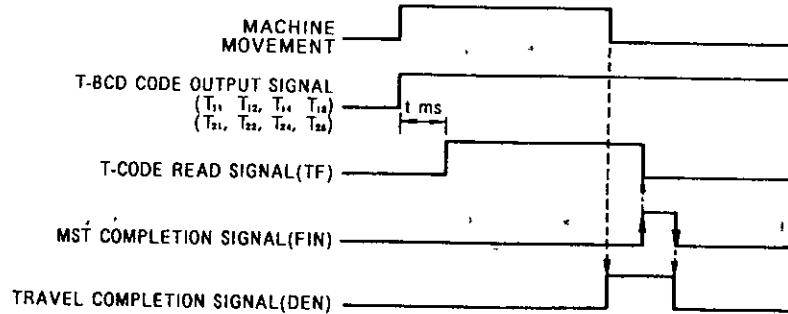

Fig 3 34
- (6) Where several T-codes are commanded in the same block, a final command among commanded T-codes is effective Fig 3 34 shows the time chart covering the above time relationship